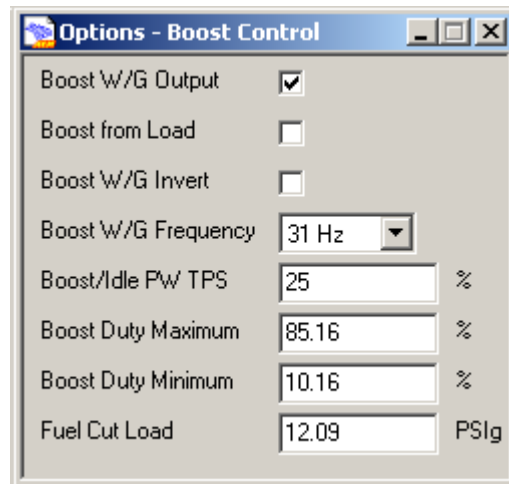

Fig 1 – Boost Control Options
4. In the **Options** window, match Fig. 1. (*Fuel Cut Load* should be a value greater than your wastegate spring open pressure, but still safe. In this example, wastegate spring pressure is 6 PSI)